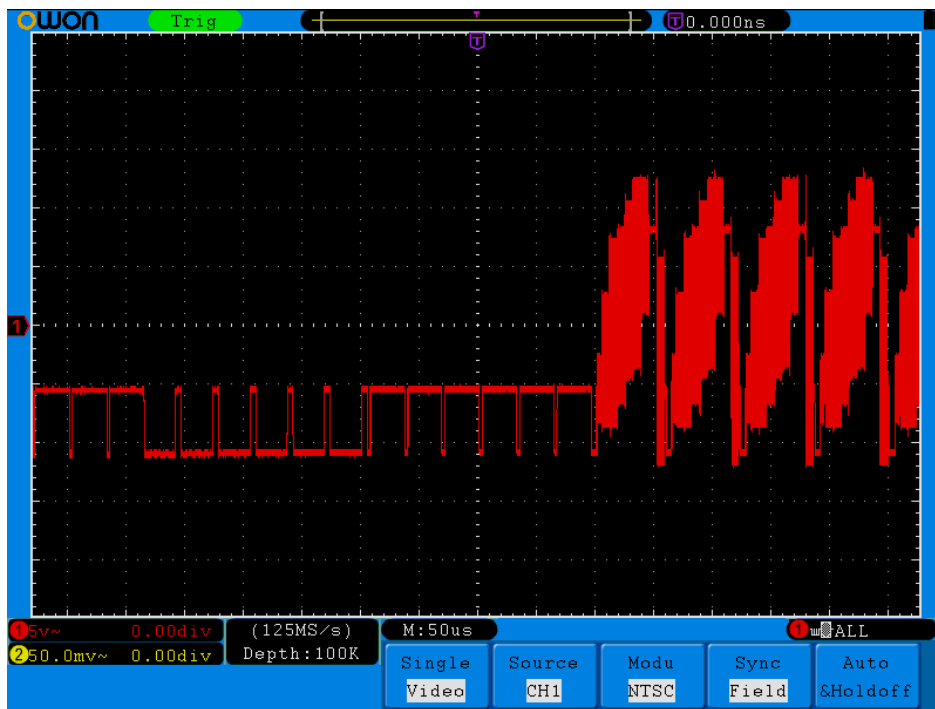

Fig.6-7 Waveform Captured from Video Field Trigger
- (2) Press the **H1** button to display the trigger type menu.
- (3) Press the **F1** button to choose **Single** for Type.
- (4) Turn the **M** knob to choose **Video** as the mode.
- (5) Press the **H2** button to display the Source menu.
- (6) Press the **F1** button to choose **CH1** for Source.
- (7) Press the **H3** button to display the Modu menu.
- (8) Press the **F1** button to choose **NTSC** for the modulation.
- (9) Press the **H4** button to display the sync menu.
- (10) Press the **F2** button to choose **Field** for Sync.
- (11) Turn the **VOLTS/DIV**, **VERTICAL POSITION** and **SEC/DIV** knobs to obtain a proper waveform display (see Fig.6-7).